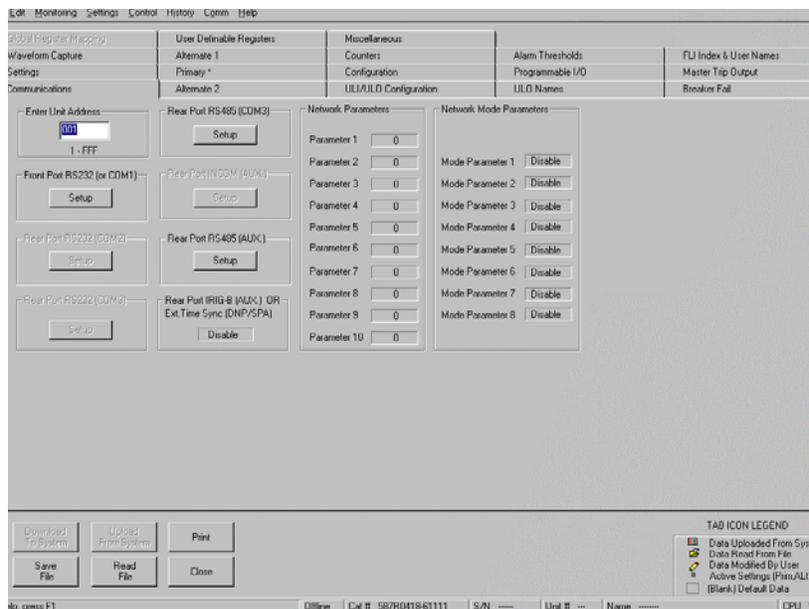

Figure 4-8. COM 3 Port Parameterization for DNP 3.0
The communication ports for DNP 3.0 may be configured via WinECP. The configuration screens appear the same as shown in Figure 4-8 above. The DNP 3.0 configuration procedure if one is to perform the steps through the Front Panel Interface is listed as such:
20. Once returned to the Main Menu, depress the “↓” key once to select the PARAMETER 9 (Time Synchronization Frequency Request) Menu and then depress the “E” pushbutton. The selections for this field may range from 0 to 255. Use the “→” and “←” keys to select appropriate entry for PARAMETER 9 as described above. Depress “E” to select the entry. Depress “C” to return to the Root Menu. **NOTE:** THE IRIG B SELECTION PRESENT ON THE CONFIGURATION PAGE (REFERENCE Figure 4-8) MUST BE SET TO “ENABLED –CC” OR “ENABLED-MMM” FOR THE TIME SYNCHRONIZATION TO OPERATE USING THE DNP 3.0 TIME OBJECTS 50 OR 52.